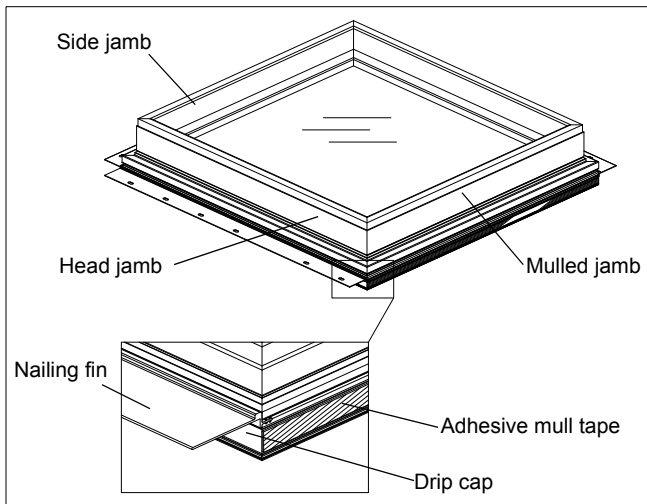

Figure 1
1. Lay frames on a flat surface in the desired mulling configuration (interior facing up). Remove nailing fin and/or drip cap from head jamb, sill, and side jambs that will be mulled together. Apply mull sealing tape the full length of the head jamb or jambs ensuring that it is located 1/4" (6) from the exterior edge of the Ultrex® as shown in figure 1.